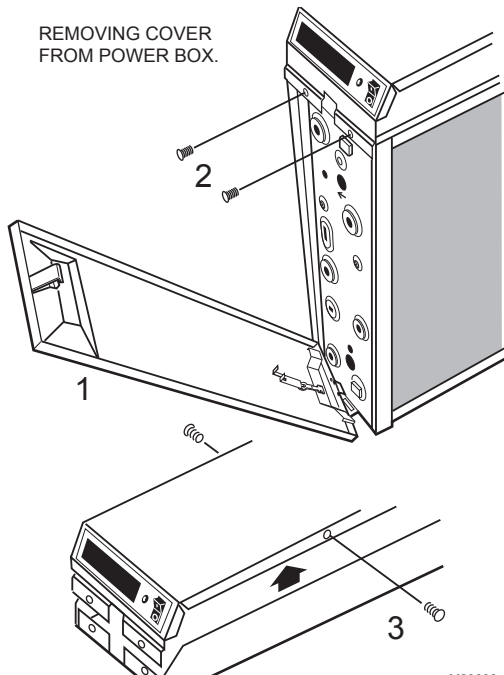

Fig. 11. Removing cover from power box.
2. Remove and retain the two screws from the front of the power box and the two screws from the sides of the power box. See Fig. 11.